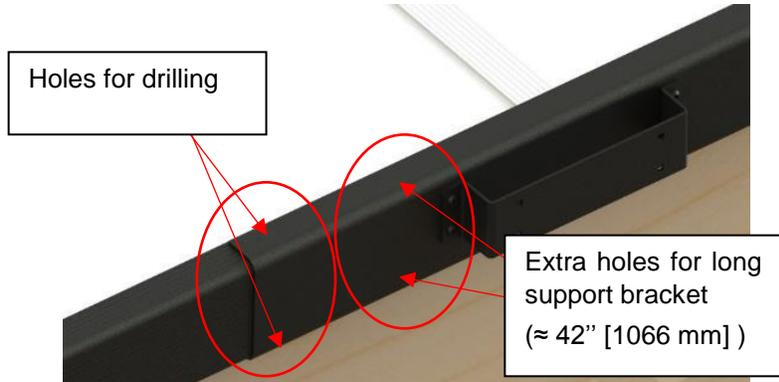

Figure 79
39) Use the provided 5/32" drill bit to drill the holes on the top and bottom of the support bracket (four holes per bracket) (Figure 79 and 80). Use the pre-drilled holes in the support bracket as guidance.